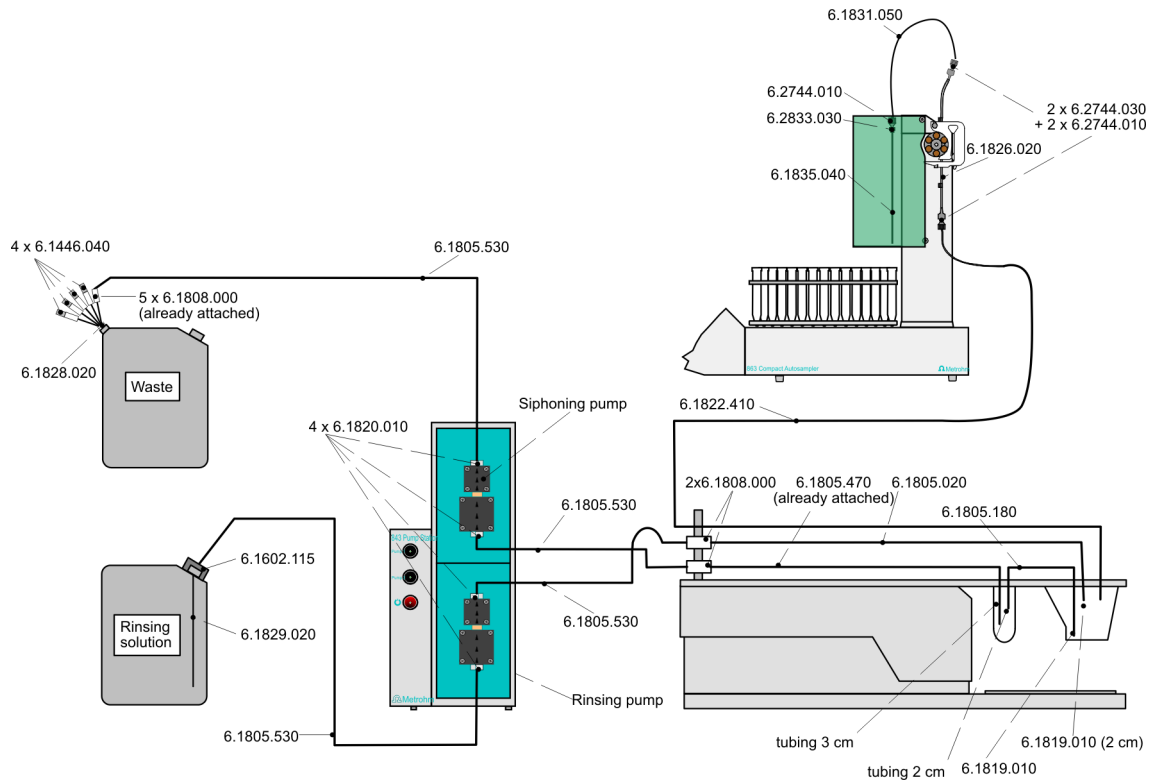
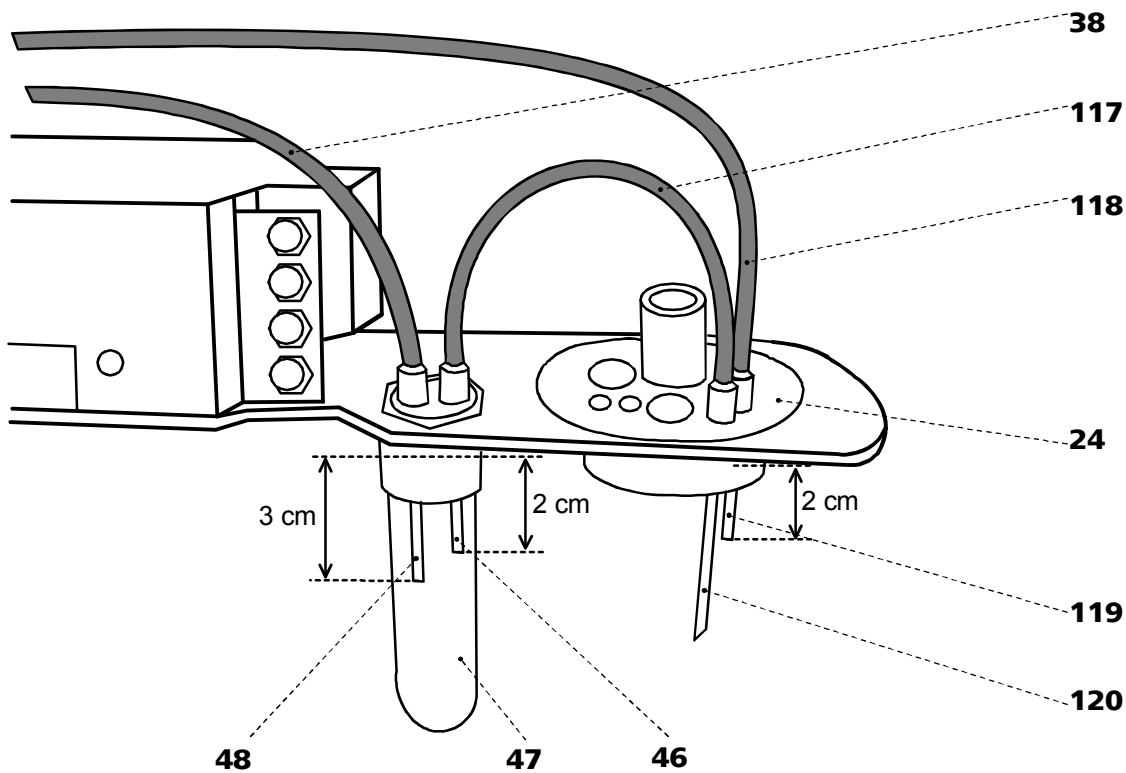

Fig. 16: Tubing connections for operation of the 863 Compact Autosampler
Fig. 17: Installation of accessories for rinsing and siphoning off
For operation of the 797 VA Computrace Stand with 863 Compact Autosampler 843 Pump Station, the accessories and tubing connections must be installed according to Fig. 16. Proceed as follows:
- Attach one end of a 6.1805.530 FEP tubing to the lower screw connector of the siphoning pump (upper membrane pump). Attach the other end of the 6.1805.530 FEP tubing to the 6.1808.000 connection bushing attached at the FEP tubing **38** of the 797 VA Computrace Stand (see *Fig. 16* and *Fig. 17*).
- Attach one end of a 6.1805.530 FEP tubing to the top screw connector of the rinsing pump (lower membrane pump). Attach the other end of the 6.1805.530 FEP tubing to the 6.1808.000 connection bushing attached at the FEP tubing **118** of the 797 VA Computrace Stand (see *Fig. 16* and *Fig. 17*).
- Attach one end of a 6.1805.530 FEP tubing to the lower screw connector of the rinsing pump (lower membrane pump). Attach the other end of the 6.1805.530 FEP tubing to the 6.1602.115 bottle neck attachment of the storage container (see *Fig. 16* and *Fig. 17*).
- Attach the other end of the 6.1805.530 FEP tubing at the **lower** end of the pump tubing of the rinsing pump (see *Fig. 16*).